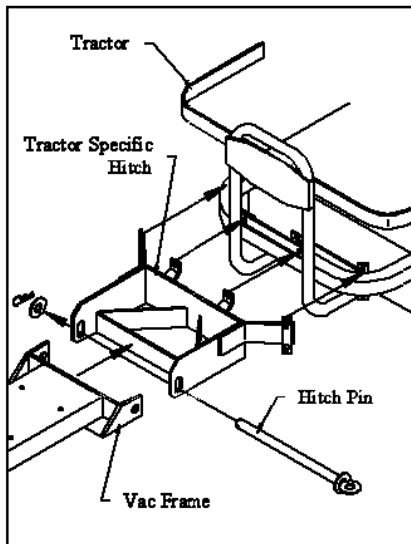

Fig. 7
7. To attach unit to tractor, attach tractor specific hitch to rear of tractor (Illustration is only an example). Once hitch is attached slip vacuum frame inside of hitch, and align holes in hitch and holes in frame. Once aligned slip hitch pin through all and secure by slipping a 3/4" flatwasher over end of hitch pin sticking through and clip with hairclip pin. **Fig. 7 & 8**